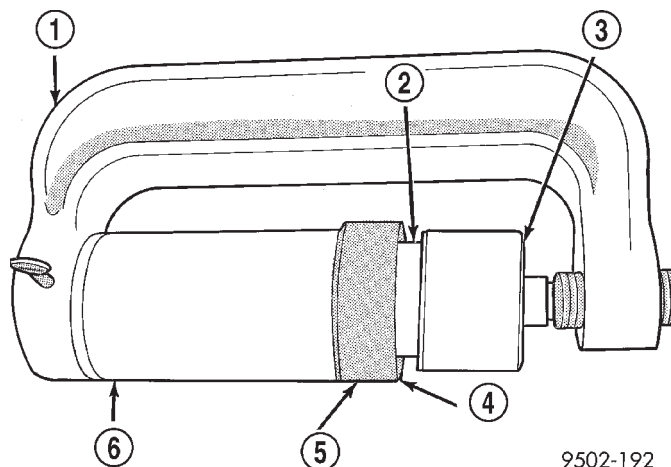

Fig. 85 Installing Rear Bushing In Lower Control Arm
(2) Mount Bushing Installer, Special Tool 6760 on screw portion of Remover/Installer Special Tool C-4212-F (Fig. 85).
(3) Install Special Tools assembled for installation of rear isolator bushing into lower control arm on the lower control arm. Be sure Special Tool 6756 is square on lower control arm and Special Tool 6760 is positioned correctly on isolator bushing (Fig. 85).
(4) Tighten screw on Remover/Installer Special Tool C-4212-F pressing rear bushing into lower control arm. Continue pressing rear bushing into lower control arm until bushing is sitting flush on the machined surface (Fig. 85) of the lower control arm. This will correctly position rear bushing in lower control arm.
(5) Install lower control arm assembly back on vehicle. See Lower Control Arm Installation in this section of the service manual for the required installation procedure.